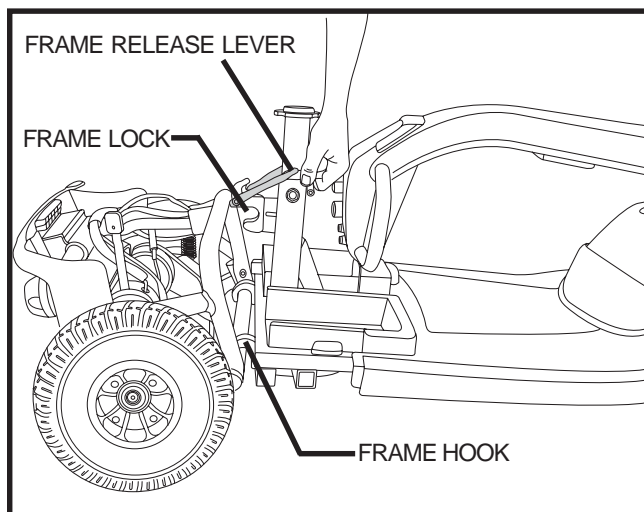

Figure 24. Frame Release
1. Lift up on the frame release lever. See figure 24.
2. Use the frame release lever to lift the front section as you align the frame hooks of the front section with the lower frame tube of the rear section. See figure 24.
3. Once the frame hooks are over the lower frame tube, lower the front section completely. This will engage the frame lock. See figure 24.